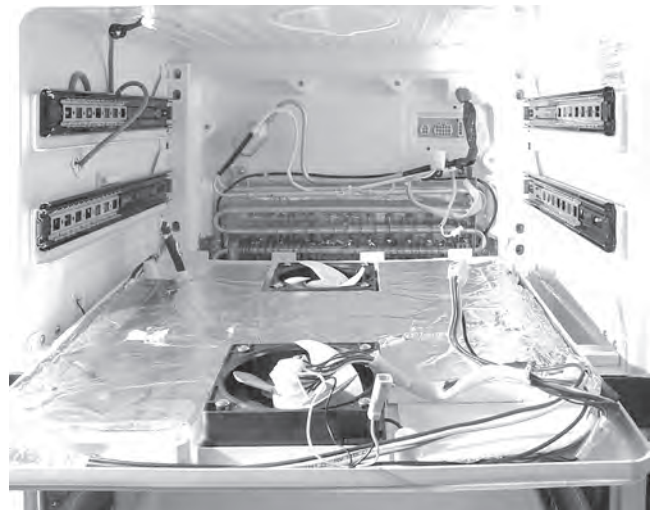

Figure 10
10. After disconnecting the wire harnesses, the evaporator cover can be removed, see figure 10.